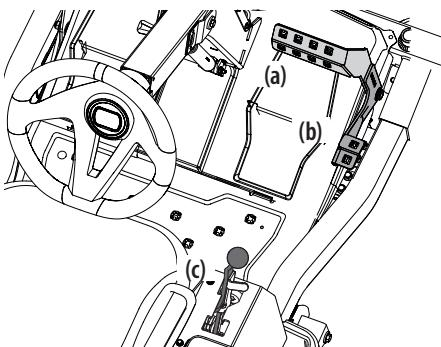

Figure 20
2. To travel FORWARD, slowly press the forward drive pedal (a) forward until the desired speed is achieved. See Figure 20.
- To stop or slow down the tractor, take your foot off of the forward (a) or reverse drive (b) pedal. To lock the parking brake, place drive control pedals in neutral and pull the park brake lever (c) back until it locks into the "on" position. See Figure 20 on page 17.
- To travel in reverse, check that the area behind is clear then slowly push down on the reverse drive pedal (b) with the ball of your foot (NOT your heel) until the desired speed is achieved. See Figure 20 on page 17.